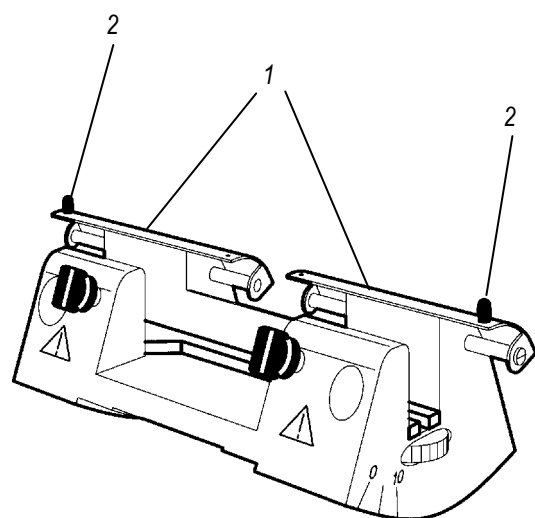

Fig. 1-3
The knife guard of the knife holder (Fig. 1-3) can be easily positioned using the two buttons (2).